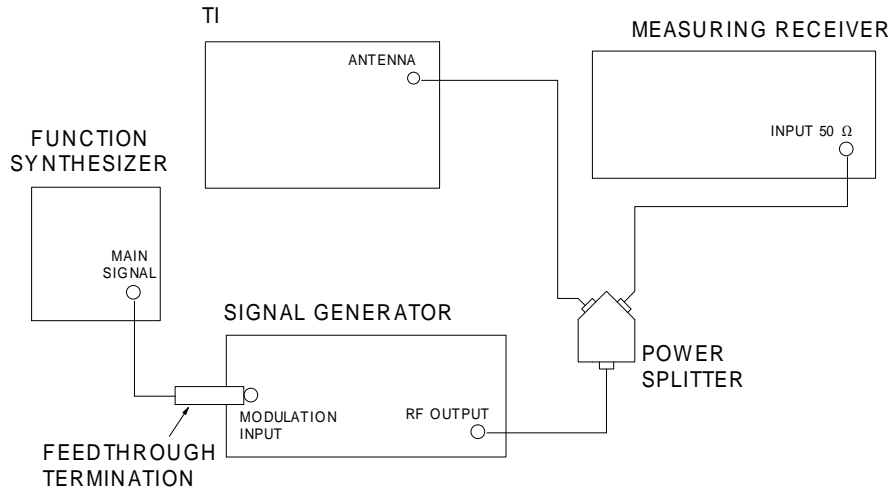

Figure 4.
4.4.2.1 Connect equipment as shown in Figure 4. Press Tx TEST, press SELECT and select the ANTENNA input.